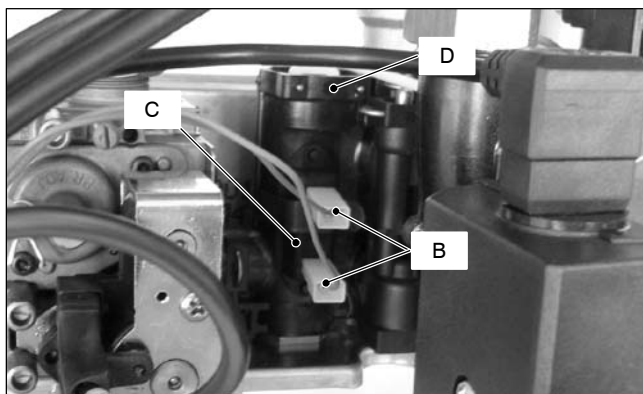

Fig. 14.2
- 2 Disconnect the connectors **B** and remove the sensor holder spring **C** (Fig. 14.2).